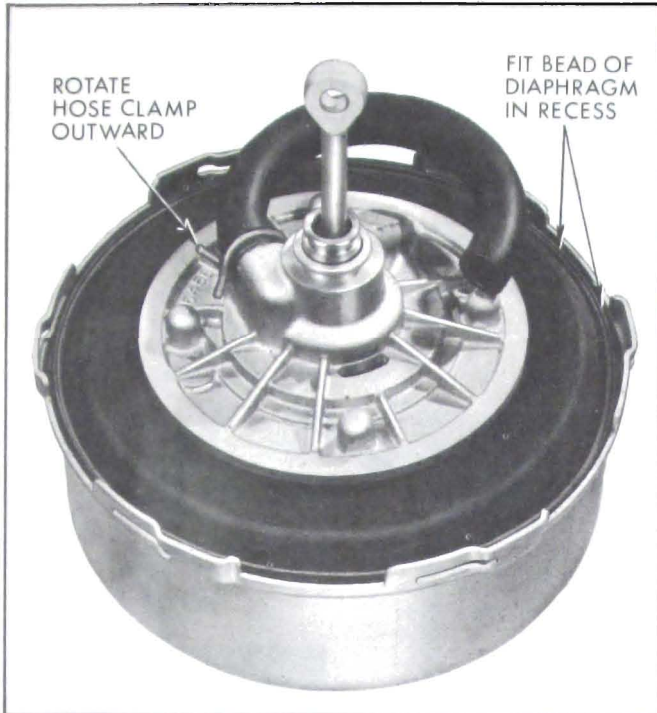

Figure 9-25—Installing Power Piston Assembly in Front Housing
piston. Install hose clamp using Pliers J-5284. Rotate hose clamp outward so that it nearly contacts power piston; otherwise it will strike the rear housing and prevent full return of power piston assembly. See Figure 9-25.
21. Rotate power piston assembly so that unattached end of hose is in line with master cylinder filler cap. Press power piston down and hold in position while fitting bead of diaphragm into recess in rim of front housing. See Figure 9-25.